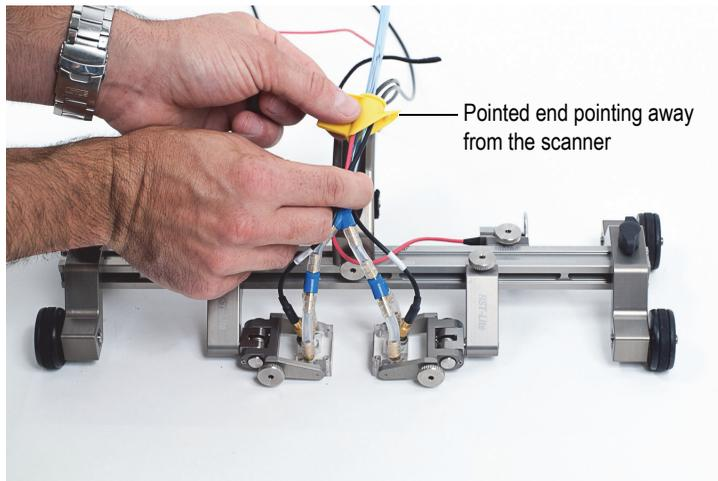

Figure 1-15 Draw-in tool installed on cable and tube bundle
3. Install the draw-in tool on the cable and tube bundle. The pointed end of the draw-in tool should point away from the scanner (see Figure 1-15 on page 20).